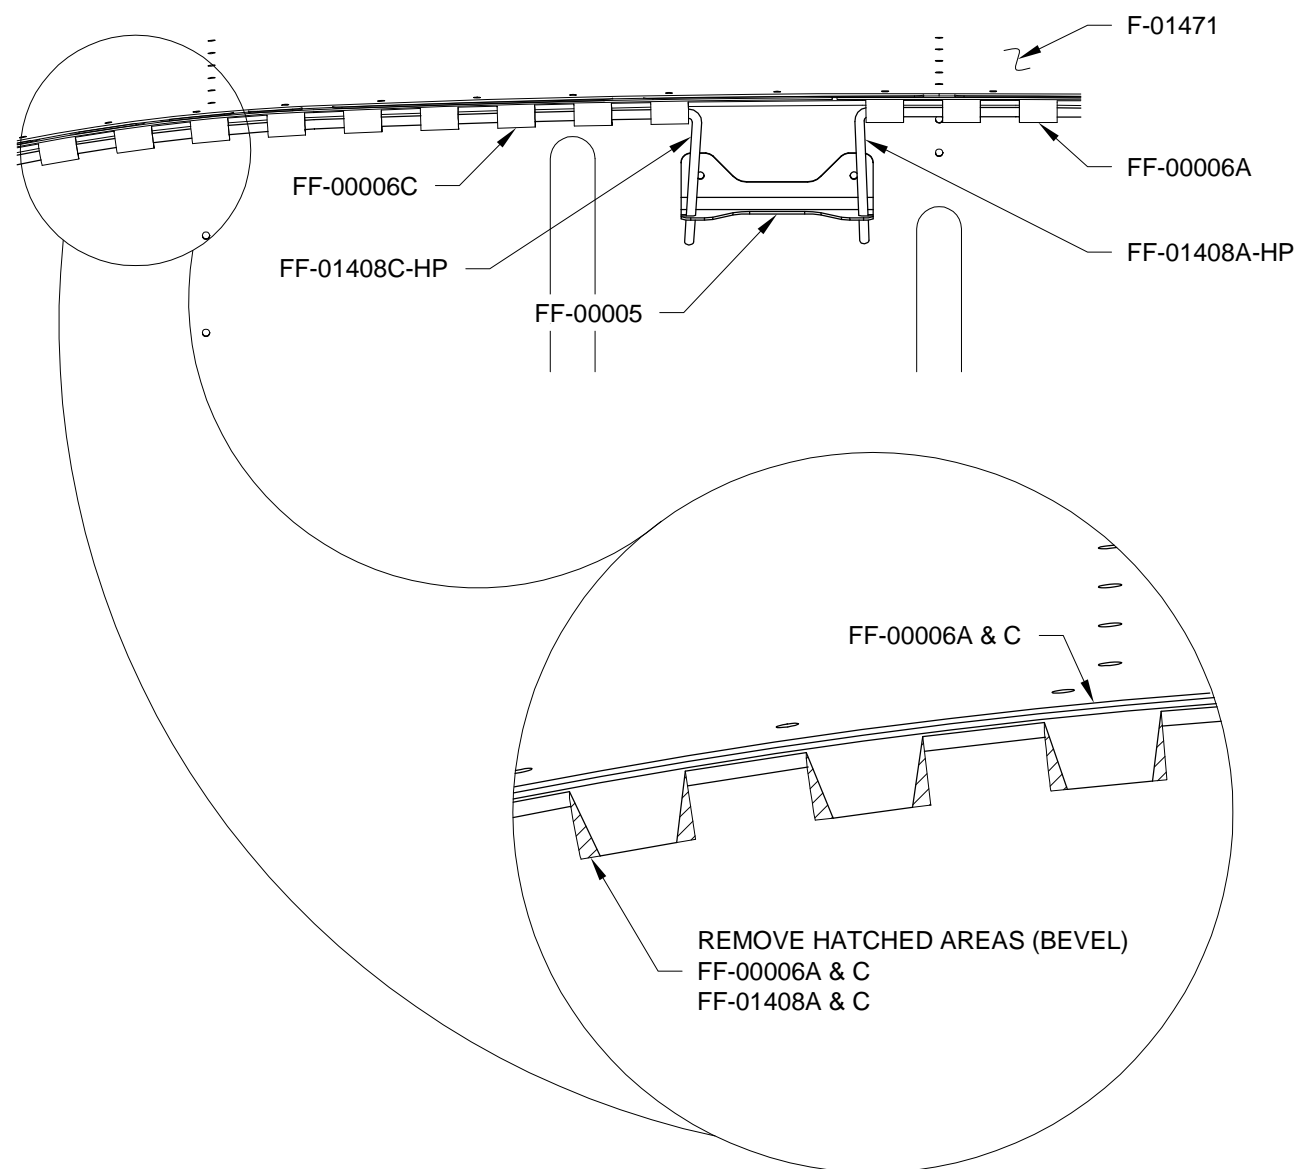

FIGURE 1: HINGE PIN ORIENTATION AND BEVELS
Step 1: Pre-form the FF-01408A & C Cowl Attach Piano Hinges and FF-01408A-HP & C-HP Hinge Pins to their installed shapes. When installed, the bent ends of the hinge pins are secured in the notches of the FF-00005 Cowl Pin Retention Bracket on the firewall as shown in Figure 1.
Step 2: For the more curved portions of the FF-01408A & C Cowl Attach Piano Hinges, bevel the eyelets with a file or small abrasive disc. Likewise, bevel the corresponding eyelets of the FF-00006A & C Cowl Attach Piano Hinge halves. Bevel as required until the hinge halves easily fit together. See the detail view of Figure 1.